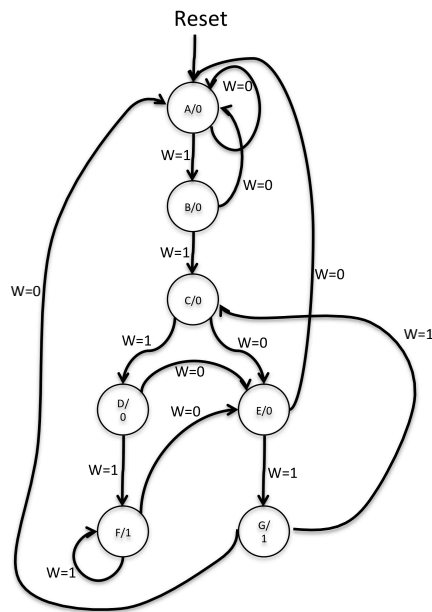

Figure 1: The state diagram for Robo-Snail II.
Note that overlapping sequences are allowed. For example, if `W` is 1 for five consecutive clock pulses, then `Z` is 1 after both the fourth and fifth clock edge. A state diagram for this FSM’s behaviour is shown in Figure 1.
1. Derive the state transition table from the diagram in Figure 1 and use a simple binary encoding for the states.
- Derive the state transition table from the diagram in Figure 1 and use a one-hot encoding for the states.